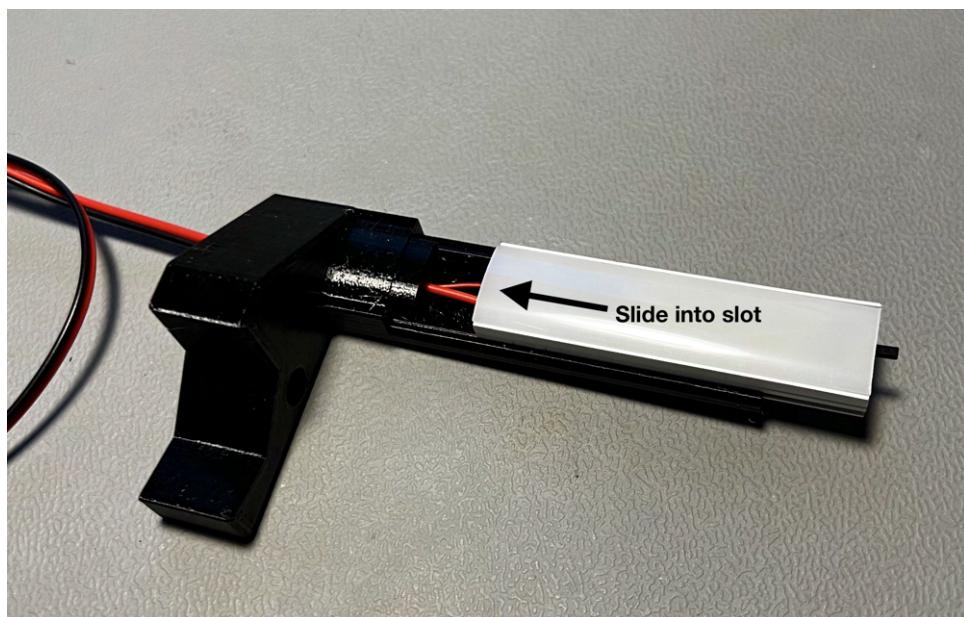

Figure 16: How to slide in the LED light into the 3D printed holder.
1. Start by sliding the wiring through the slot provided. Next, insert the LED light into the 3D printed holder, as illustrated in Figure 16. Slide it all the way in until it is flush with the end.